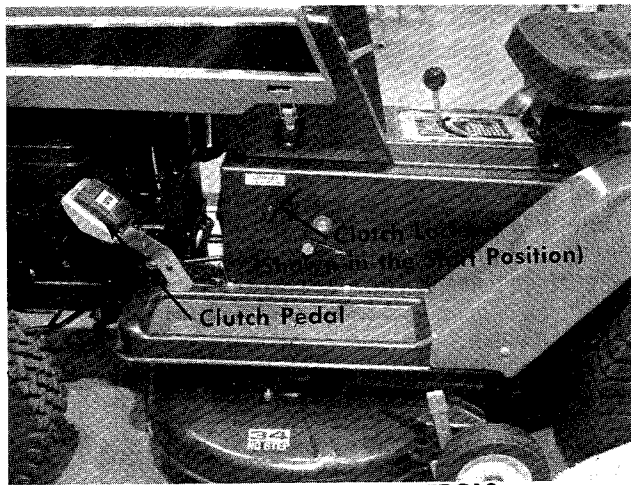

FIGURE 8. LEFT HAND CONTROLS
e. **Clutch Pedal.** The clutch pedal is used to disengage the drive mechanism. Depressing the clutch pedal at any time will reduce mower speed. If depressed all the way, it will stop the mower. See figure 8.
f. **Clutch Lockout.** When the clutch pedal is depressed all the way it can be locked by placing the clutch lockout in the START position as shown in figure 8. The clutch lockout must be in this position before the engine will start.
g. **Stop Lever.** The stop lever allows you to regulate the maximum ground speed of the riding mower by setting the stop lever in any one of the five settings. The farther forward the stop lever is set, the faster the ground speed. See figure 8.
Step 2. Place the clutch lockout in the START position. See figure 8.